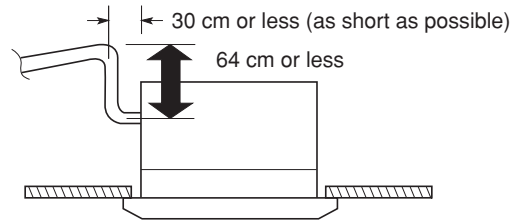

Fig. 3-9
- If it is necessary to increase the height of the drain pipe, the section directly after the connection port can be raised a maximum of 64 cm. Do not raise it any higher than 64 cm, as this could result in water leaks. (Fig. 3-9)